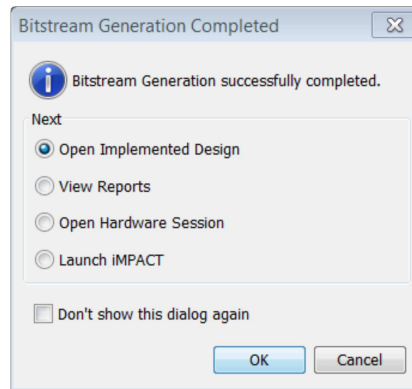

Figure 38: Bitstream Generation Completed
3. After the design implementation, **click “Open Implemented Design”, (Figure 38). Press “ok”**